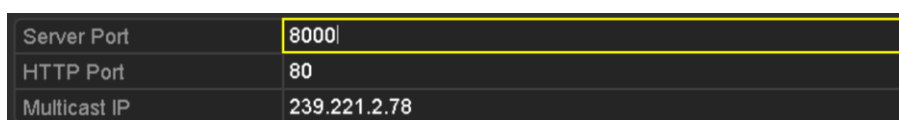

Figure 11. 19 Host/Other Settings Menu
2. Select the **More Settings** tab to enter the More Settings interface, as shown in Figure 11. 16.